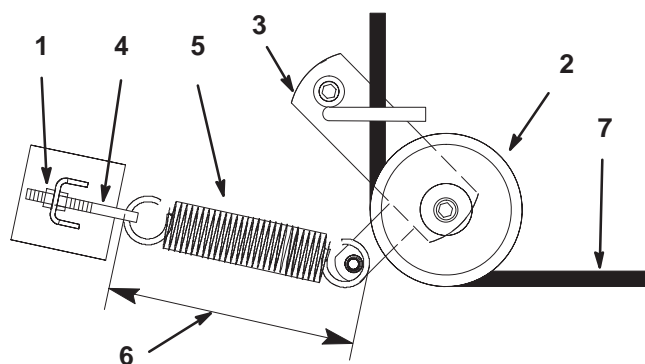

Figure 44
3. Loosen outer nut on spring eye bolt (Fig. 44).
5. Remove spring loaded idler pulley (Fig. 44).
6. Route new belt through idler arm (Fig. 44).
8. Retighten outer nut on spring eye bolt (Fig. 44).
Note: Check spring length. The spring should measure $9.375'' \pm .125''$ (238 mm \pm .3 mm) when installed. Adjust if it does not (Fig. 44).